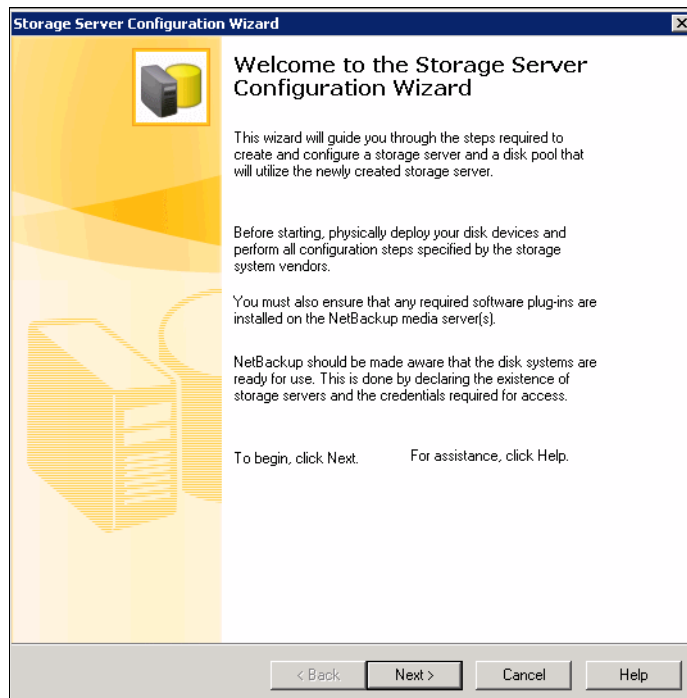

Figure 9-17 Start the Storage Server Configuration Wizard
2. Start the Storage Server configuration wizard shown in Figure 9-17 and click **Next**.